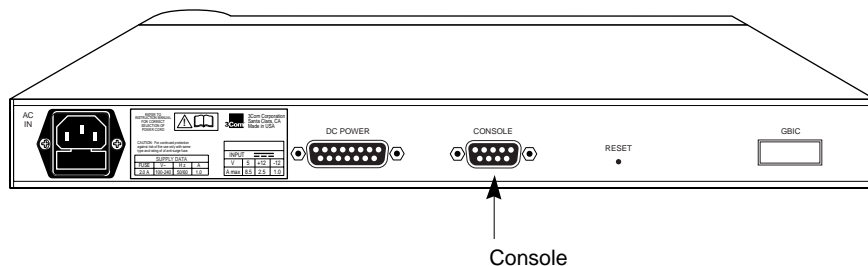

Figure A-1 Console Port
The console port (a DB-9 standard male connector) is located on the Hub 1000 SX rear panel. See Figure A-1.
- 1 Connect a null modem cable between the PC serial port and the console port on the hub's rear panel. (See Figure A-1.)